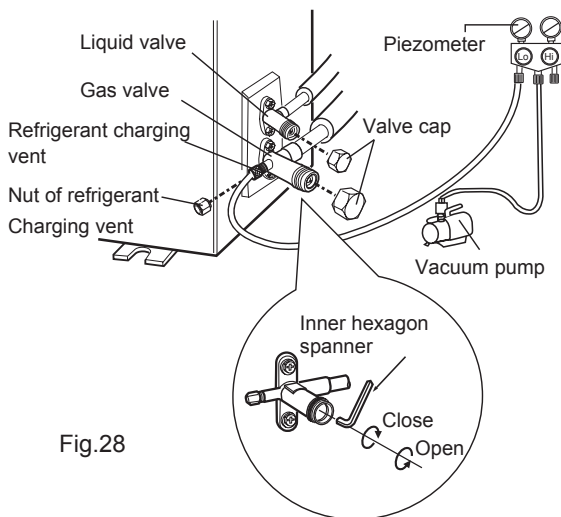

Fig.28
- (1) Remove the valve caps on the liquid valve and gas valve and the nut of refrigerant charging vent.
- (2) Connect the charging hose of piezometer to the refrigerant charging vent of gas valve and then connect the other charging hose to the vacuum pump.
- (3) Open the piezometer completely and operate for 10-15min to check if the pressure of piezometer remains in -0.1MPa.
- (4) Close the vacuum pump and maintain this status for 1-2min to check if the pressure of piezometer remains in -0.1MPa. If the pressure decreases, there may be leakage.
- (5) Remove the piezometer, open the valve core of liquid valve and gas valve completely with inner hexagon spanner.
- (6) Tighten the screw caps of valves and refrigerant charging vent.(As show in Fig.28)
- (7) Reinstall the handle.